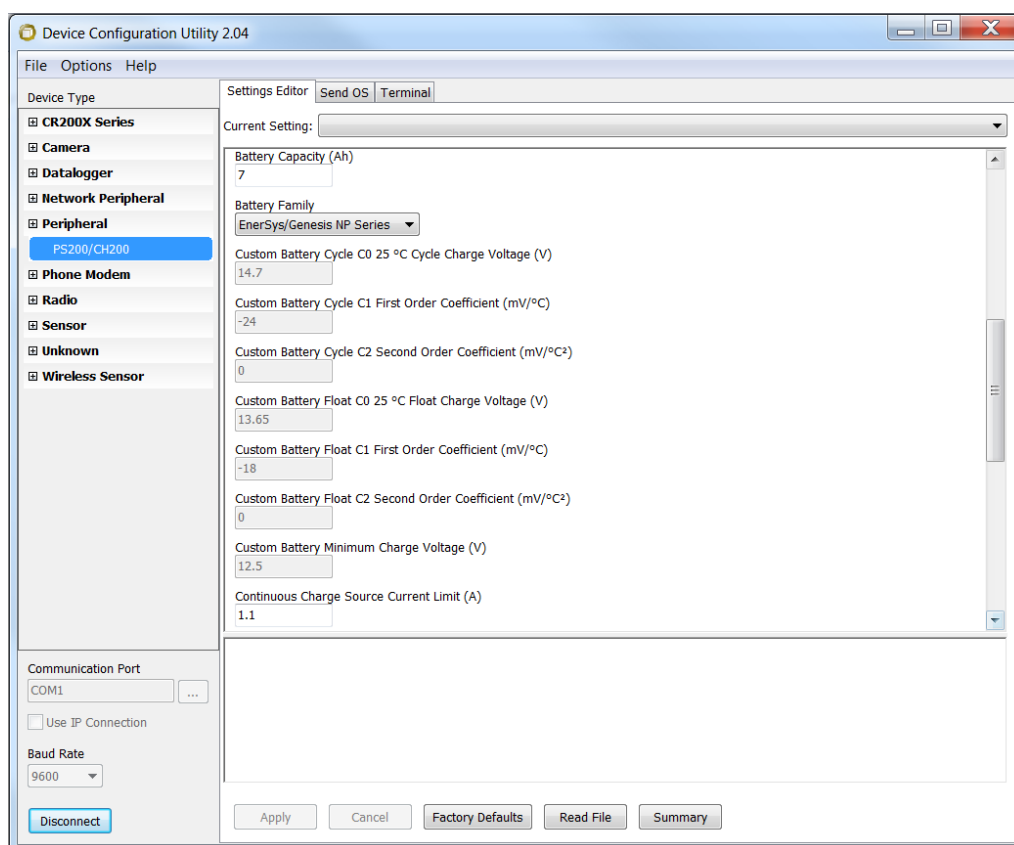

Figure 6-3. Device Configuration Utility settings editor
Custom Battery Cycle C ₀ 25°C Cycle Charge Voltage (V)	This field will allow changes made to it when “Custom Battery” is selected for the battery family. This field will be greyed out for any other battery family types and not allow changes made to it. See battery manufacturer information for correct values. See Figure 6-3.
Custom Battery Cycle C ₂ First Order Coefficient (mV/°C)	This field will allow changes made to it when “Custom Battery” is selected for the battery family. This field will be greyed out for any other battery family types and not allow changes made to it. See battery manufacturer information for correct values. See Figure 6-3.
Custom Battery Cycle C ₂ Second Order Coefficient (mV/°C) ²	This field will allow changes made to it when “Custom Battery” is selected for the battery family. This field will be greyed out for any other battery family types and not allow changes made to it. See battery manufacturer information for correct values. See Figure 6-3.
Custom Battery Float C ₀ 25° Cycle Charge Voltage (V)	This field will allow changes made to it when “Custom Battery” is selected for the battery family. This field will be greyed out for any other battery family types and not allow changes made to it. See battery manufacturer information for correct values. See Figure 6-3.
Custom Battery Float C ₂ First Order Coefficient (mV/°C)	This field will allow changes made to it when “Custom Battery” is selected for the battery family. This field will be greyed out for any other battery family types and not allow changes made to it. See battery manufacturer information for correct values. See Figure 6-3.
Custom Battery Float C ₂ Second Order Coefficient (mV/°C) ²	This field will allow changes made to it when “Custom Battery” is selected for the battery family. This field will be greyed out for any other battery family types and not allow changes made to it. See battery manufacturer information for correct values. See Figure 6-3.